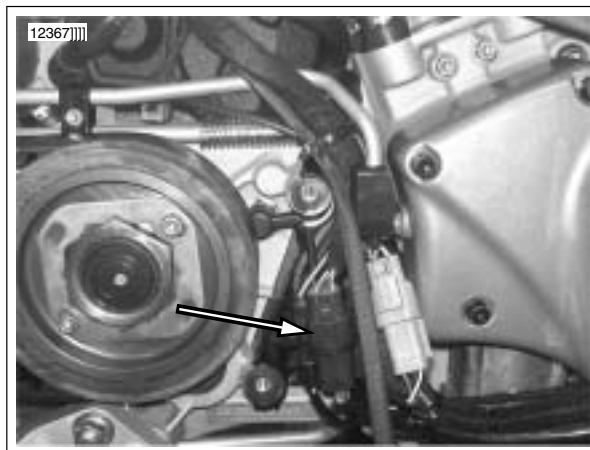

Figure 4-65. Cam Position Sensor Connector [14]
4. See Figure 4-65. Disconnect cam position sensor wiring at connector [14].